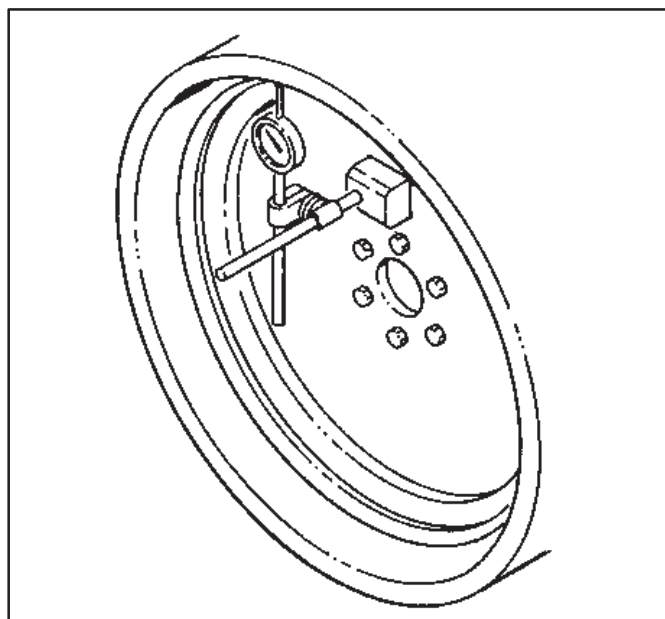

Figure B-2. Housing Pilot Bore
3. With the tip of the dial arm against the flywheel housing pilot bore, rotate the engine flywheel, Figure B-2. The following total indicator readings must not be exceeded.